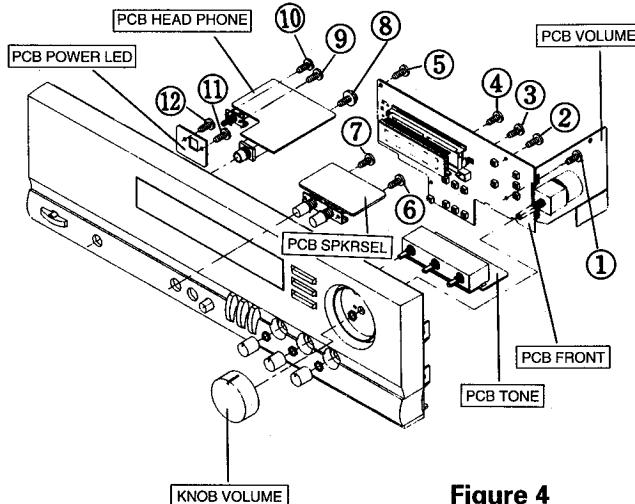
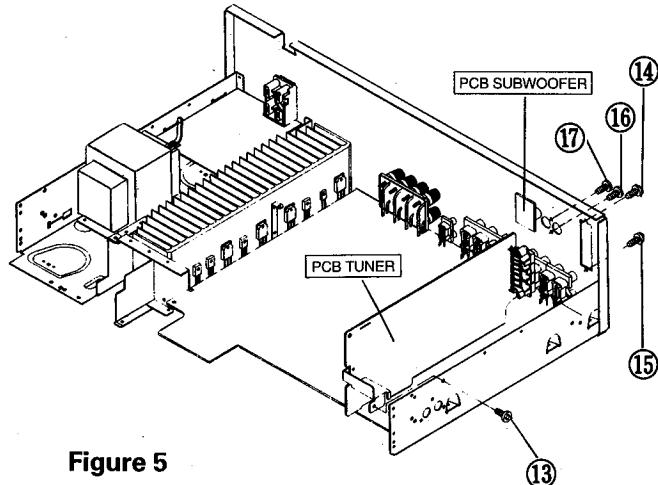

Figure 4
Figure 5
### **[4] Volume and Front PC Board Removal (Figure 4)**
### **[5] Tone PC Board Removal (Figure 4)**
### **[6] SPKR Selector PC Board Removal (Figure 4)**
3. Remove 2 screws (⑥ and ⑦) from the speaker selector switch.
**[7] Head Phone PC Board Removal (Figure 4)**
2. Remove a screw ⑧ from the headphone jack.
3. Remove 2 screws (⑨ and ⑩) from the power switch to release the Headphone PC Board.
**[8] Power LED PC Board Removal (Figure 4)**
3. Remove 2 screws (⑪ and ⑫) from the Power LED PC Board to release the PC Board.
**[9] Tuner PC Board Removal (Figure 5)**
2. Remove a screw ⑬ from the Tuner PC Board bracket.
3. Remove 2 screws (⑭ and ⑮) from the chassis back.
**[10] Sub-woofer PC Board Removal (Figure 4)**
2. Remove 2 screws (⑯ and ⑰) from the chassis back.